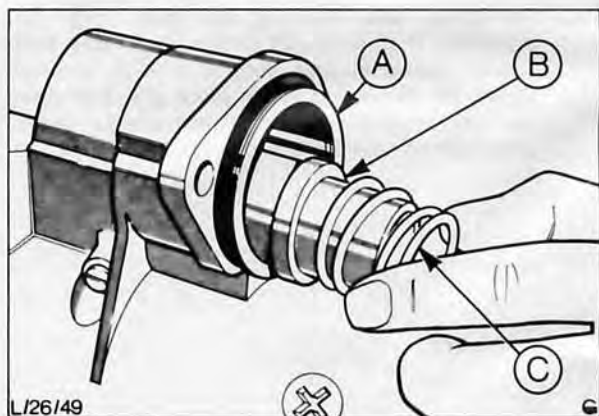

Fig. 94. Assembly of spring retainer
21. Slide metal spring retainer and spring over plunger, Fig. 94, and then fit solenoid body to drive end cover, when solenoid terminal will fit into starter terminal. Flat washer, spring washer and nut, secures terminals together.